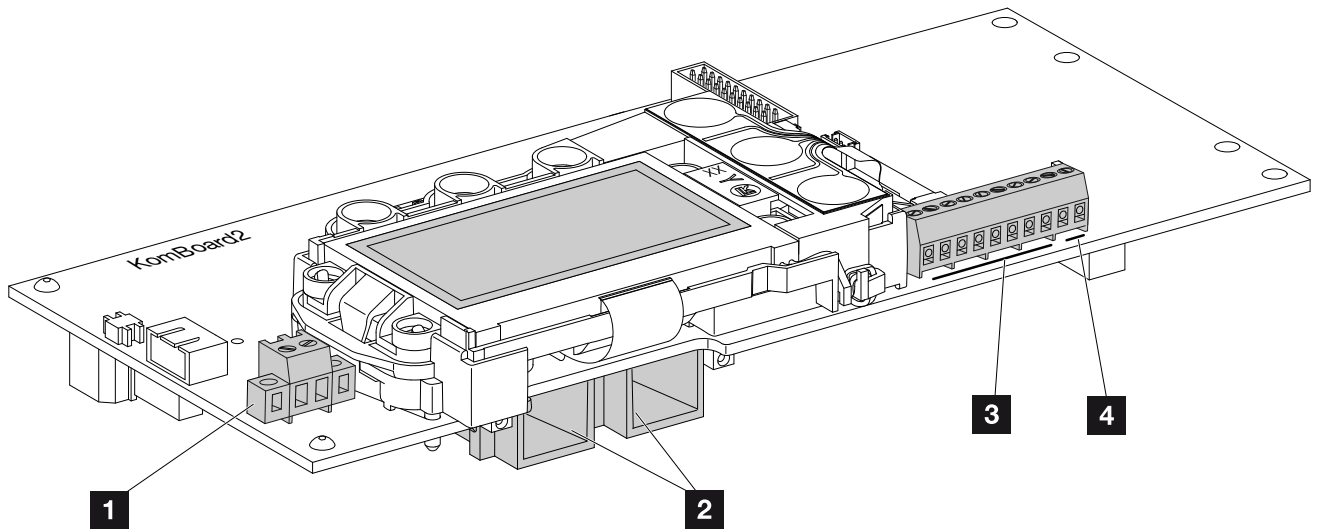

Fig. 32: Components of the communication board
6. Plug the sockets and plugs of the DC strings onto the inverter.  **Fig. 32**